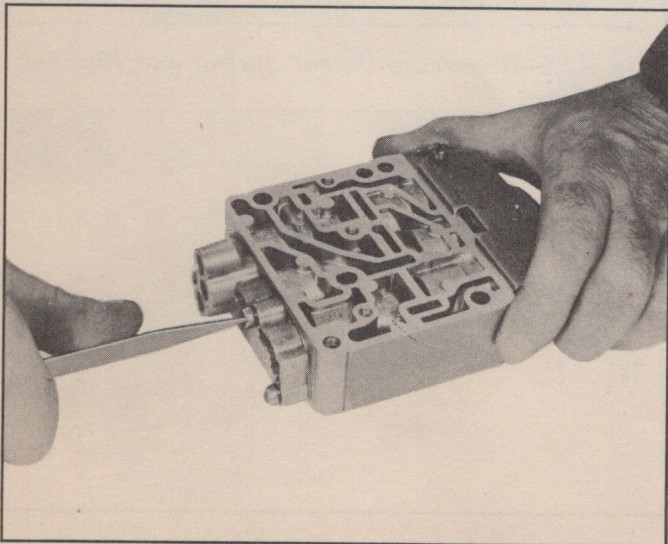

Fig. 176—Removing Valve Body Rear Cover
5. Remove three screws holding valve body rear cover to valve body and remove rear cover and inner valve body rear plate (Fig. 176). Remove three governor plugs from inner valve body.